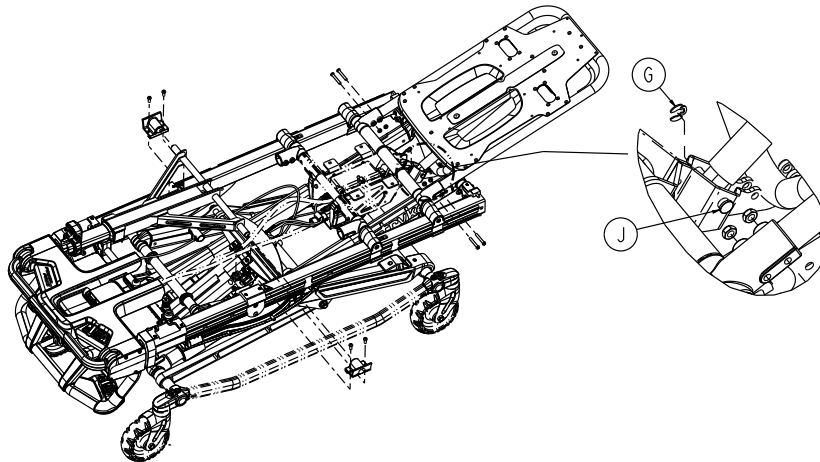

Figure 10 – Remove the truarc ring and Fowler cylinder pin
- c. Using a small slotted screwdriver, remove the truarc ring (G) and Fowler cylinder pin (J) that secure the bottom of the gas cylinder to the mount (Figure 10). Save the truarc ring and Fowler cylinder pin.